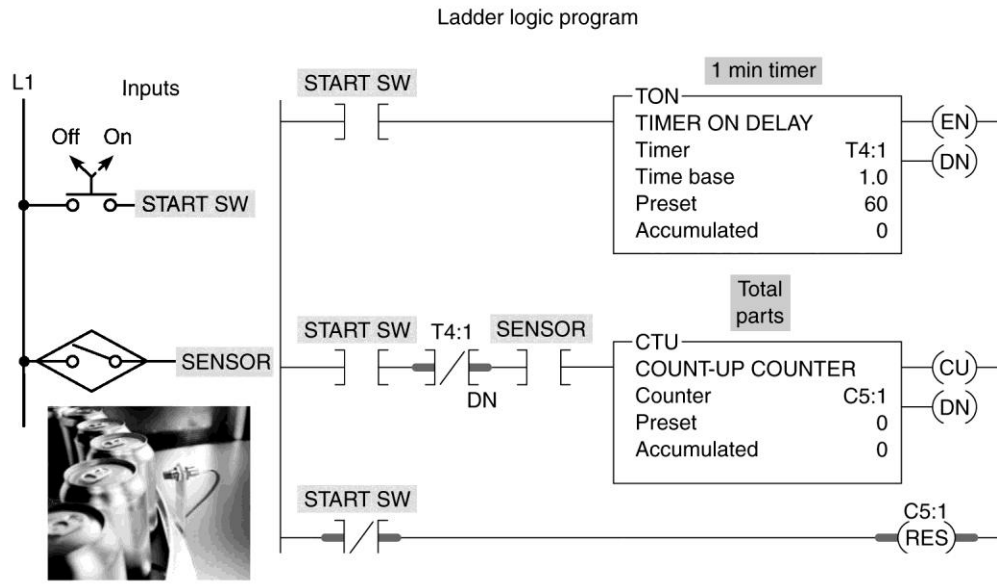

Figure 8-19 Product flow rate program for assignment 13.
13) The product flow rate program shown in Figure 8-19 is described in the text. Prepare an I/O connection diagram and ladder logic program for the application. Use addresses that apply to your PLC. Enter the program into the PLC, and prove its operation.